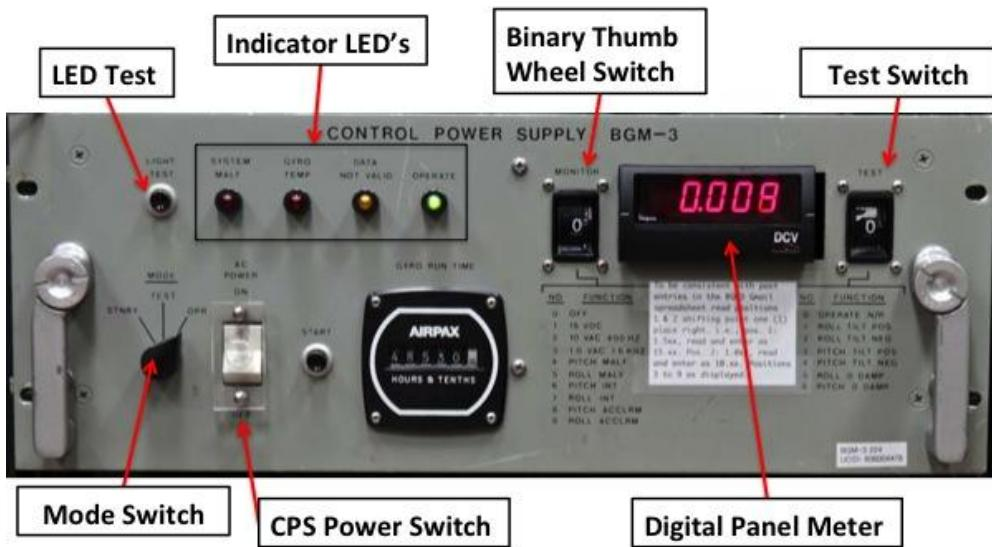

Figure 3. Control Power Supply (CPS) Front Panel
- Figure 3. Control Power Supply (CPS) Front Panel
The CPS also has a Digital Panel Meter (DPM) on the upper right side (shown in Figure 3). This panel helps in doing quick assessments of the table's power supplies and gyroscopes (described in section 2.1.1), and it also facilitates running in-port tests for tuning the stabilization table (described in sections 4.2 and 4.3)